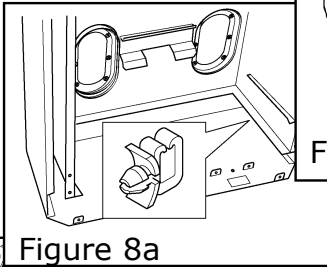

Figure 8a
3. Fit a “P” clip at the right side of the inside of the case. Fit the vent switch wire to the clip. See figure 8a.